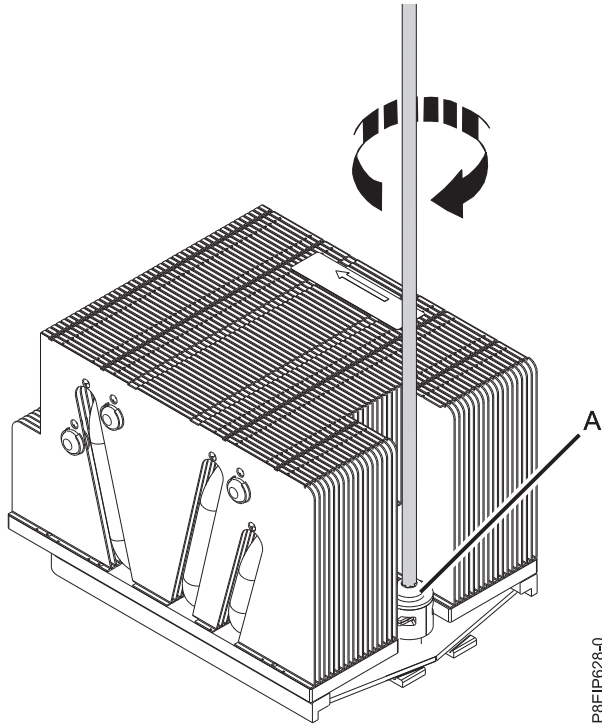

Figure 85. Tightening the load arm screw
6. Tighten the load arm (A) screw with a #3 Phillips screw driver, as shown in Figure 85 on page 69.